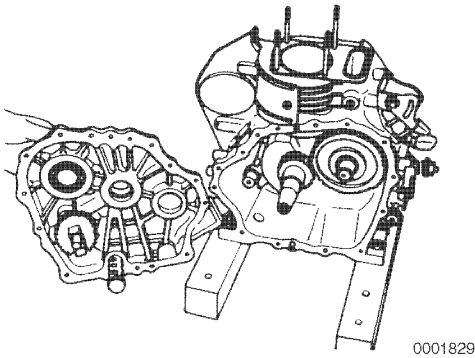

Figure 6-40
3. Remove the crankcase cover **Figure 6-40** and oil pump assembly.